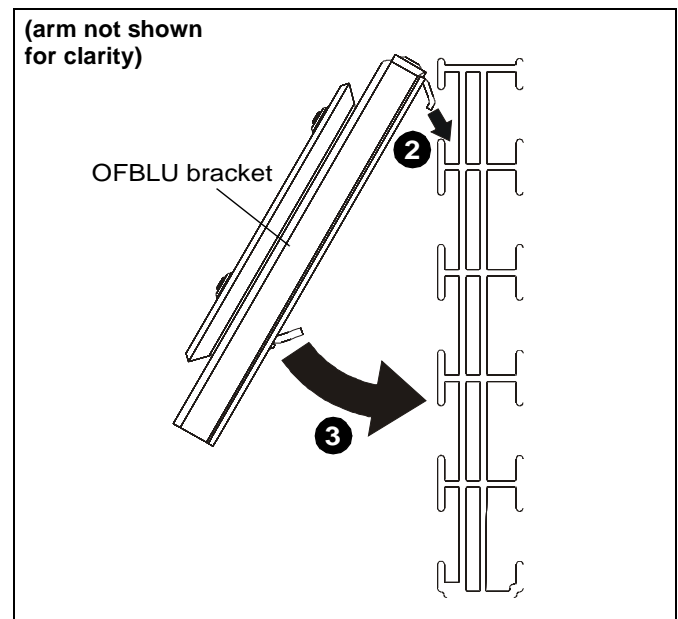

Figure 2
2. Hang OFBLU bracket onto slat wall at desired mounting location by inserting the upper mounting plate into wall track. (See Figure 2)